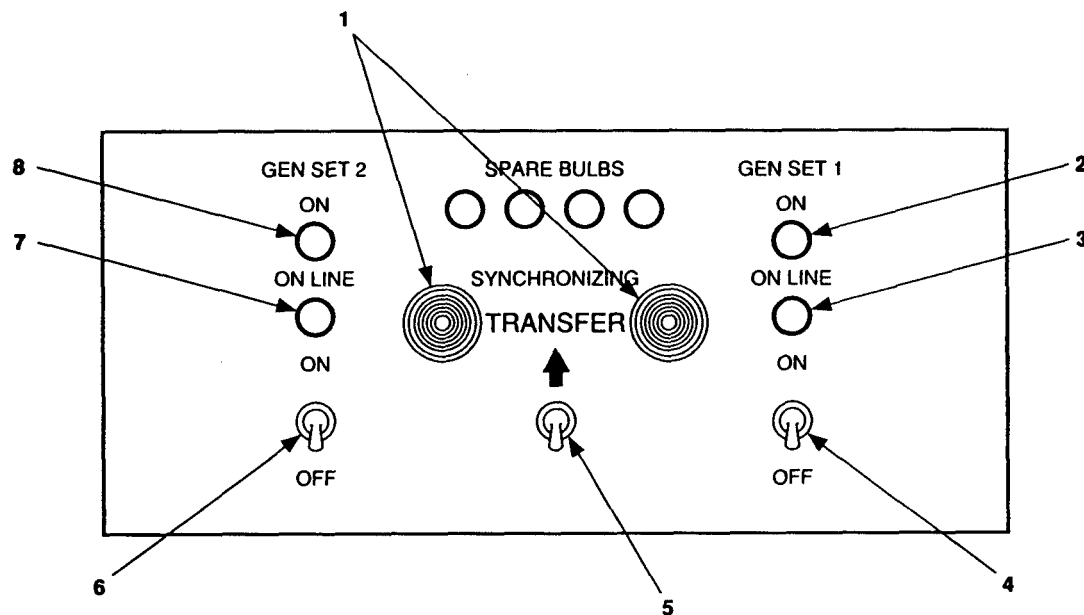

Figure 2-10. *Power Plant Operation.*
- b. Check that both ON/OFF switches (4 and 6, figure 2-10) on switch box are at center position.
- c. Check that TRANSFER switch (5) on switch box is at bottom position.
- (1) Refer to table 2-2 and perform the "Before" PMCS.
- (2) Check that switch box ON/OFF switch (6 or 4) is at center position.
- (3) Check that switch box TRANSFER switch (5) is at bottom position.
- (4) Refer to TM 9-6115-641-10 and:
- (5) Check switch box controls and indicators (figure 2-10) to ensure that:
- (6) Move switch box TRANSFER switch (5) in the direction of the arrow. All SYNCHRONIZING lights (1 and 9) should be going from bright to dark at the same time. If SYNCHRONIZING lights do not begin to function, report problem to next higher level of maintenance.
- (7) Refer to TM 9-6115-641-10 and:
- (8) When SYNCHRONIZING lights (1 and 9) are dark, hold the switch box ON/OFF switch (6 or 4) for the generator set that was just started to ON position until ON light remains on. Release the switch. The ON LINE light for the first generator set that was running should immediately go out.
- (9) Check switch box lights, as follows:
- a. Set the switch box ON/OFF switch (6 or 4, figure 2-10) for the generator set to be stopped to OFF position.